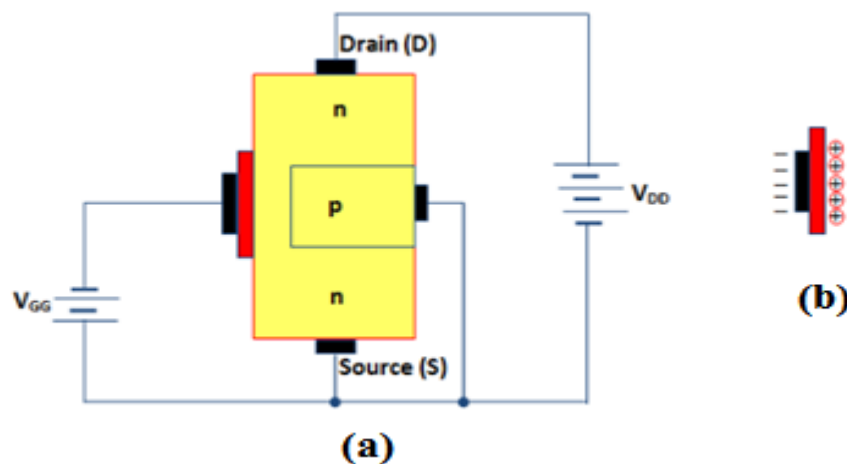

Fig. 4.26 MOSFET act as a Capacitor
- The gate of MOSFET forms a small capacitor which is shown in Fig. 4.26 (a).
- Gate voltage is negative, hence there are electrons on the gate as shown in fig. 4.26 (b).
- Since the gate voltage is negative, it induces positive charges (free holes) in the channel by the capacitor action as shown in fig. 4.26 (b).